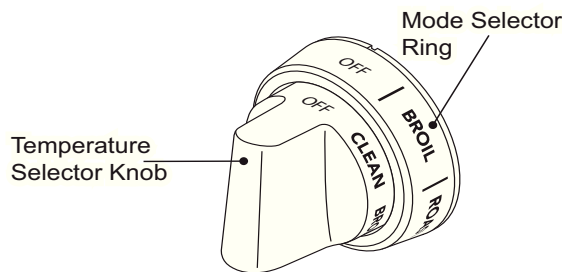

Figure 32: Mode Selector Ring & Temperature Knob
2. Set Mode Selector Ring (Figure 32) to Bake, Convection Bake, Roast, or Convection Roast.